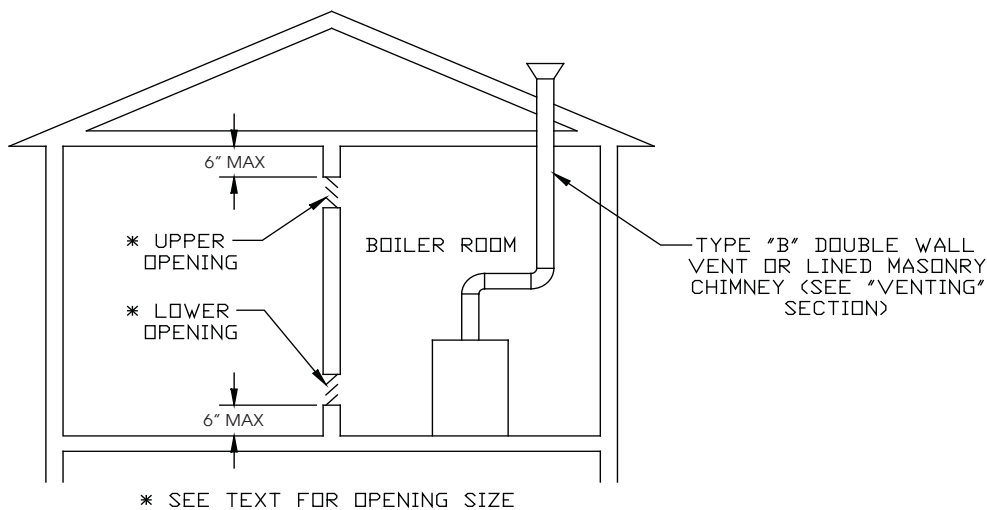

Figure 6-1: Indoor Combustion Air Method
4. If the result is at least 50 ft³ per 1,000BTU/hr, and neither of the conditions described in (6) below are met, normal infiltration should provide adequate fresh air into the boiler room.
5. If the result is less than 50 ft³ per 1,000BTU/hr, provide two openings into the boiler room, one near the floor and one near the ceiling. The top edge of the upper opening must be within 6 in. of the ceiling and the bottom edge of the lower opening must be within 6 in. of the floor (Figure 6-1):